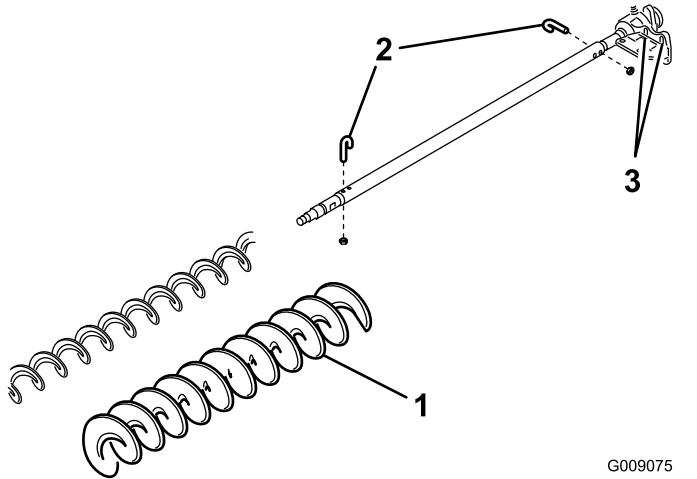

Figure 38
3. Remove the 2 J-bolts and nuts (Figure 38).
4. Slide the existing brush off the brush shaft (Figure 38).
5. Loosen the 2 bolts, washers, and nuts securing the drive-bearing housing to the bearing-housing mounting bracket (Figure 38).
6. Slide the high height-of-cut brush or HD brush onto the brush shaft (Figure 38).
7. Clamp the brush onto the shaft with the 2 J-bolts and nuts previously removed (Figure 38).